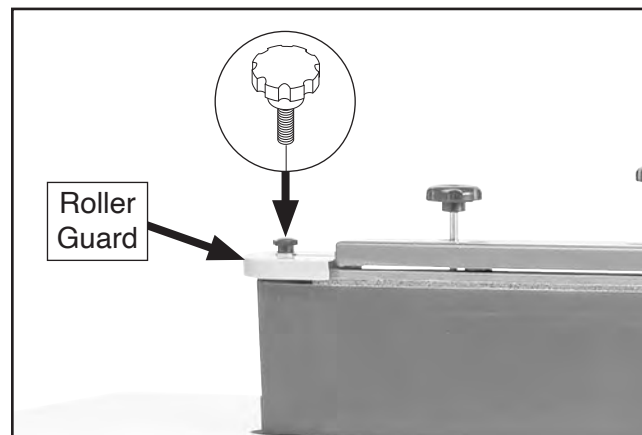

Figure 63. Location of roller guard and knob.
- Loosen knob shown in **Figure 63** to remove roller guard.